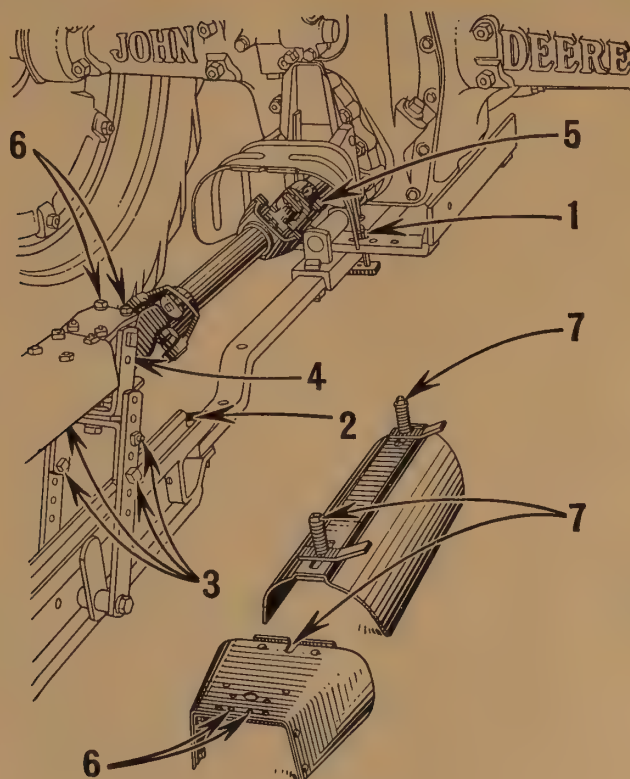

Fig. 17
1. (Fig. 17.) Clamp swinging drawbar in a central position on drawbar guide.
2. (Fig. 17.) Connect Binder to tractor drawbar.
3. (Fig. 17.) Adjust the height of power shaft front bearing so that front end of power shaft is about level with take-off shaft on tractor.
4. (Fig. 17.) Remove tape around key in front end of telescoping pipe for power drive. Remove cap screw, lugged lock washer and notched retaining washer from front end of telescoping pipe, Slide rear universal joint onto front end of telescoping pipe and replace notched retaining washer, lugged lock washer and cap screw. Be sure to fit bent lug on lock washer into notch in retaining washer and to bend remaining lugs on lock washer over head of cap screw.
5. (Fig. 17.) Slide front splined universal joint onto tractor take-off shaft and secure in place with clamp bolt.
6. (Fig. 17.) Bolt power shaft shield to **rear** set of holes in power shaft front bearing housing.
7. (Fig. 17.) Attach universal joint and pipe connection shield to take-off shaft shield on tractor and to shield on power shaft front bearing as shown.